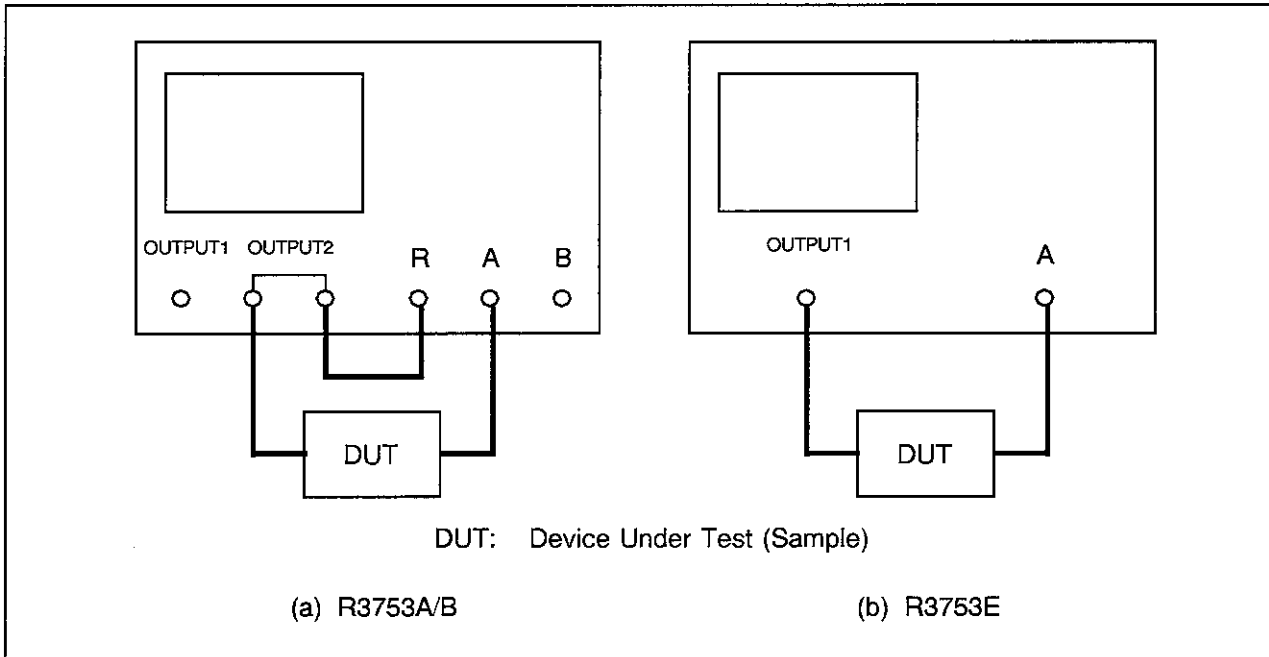

Figure 3-2 Setup (Connection of DUT)
In the case of R3753A/B, the filter is connected between the OUTPUT2 connector and INPUT A connector (Refer to figure 3-2(a)) by the cable.
In the case of R3753E, the filter is connected between the OUTPUT1 connector and INPUT A connector (Refer to figure 3-2(b)) by the cable.
- (1) Setup (Filter connection) and presetting (Refer to 3.1.2 subsections and figures 3-2).
- (2) The measurement format is made an amplitude (Logarithm display).
- (3) Set center frequency and span.
- (4) Make the status of through and do calibration of the frequency characteristic.